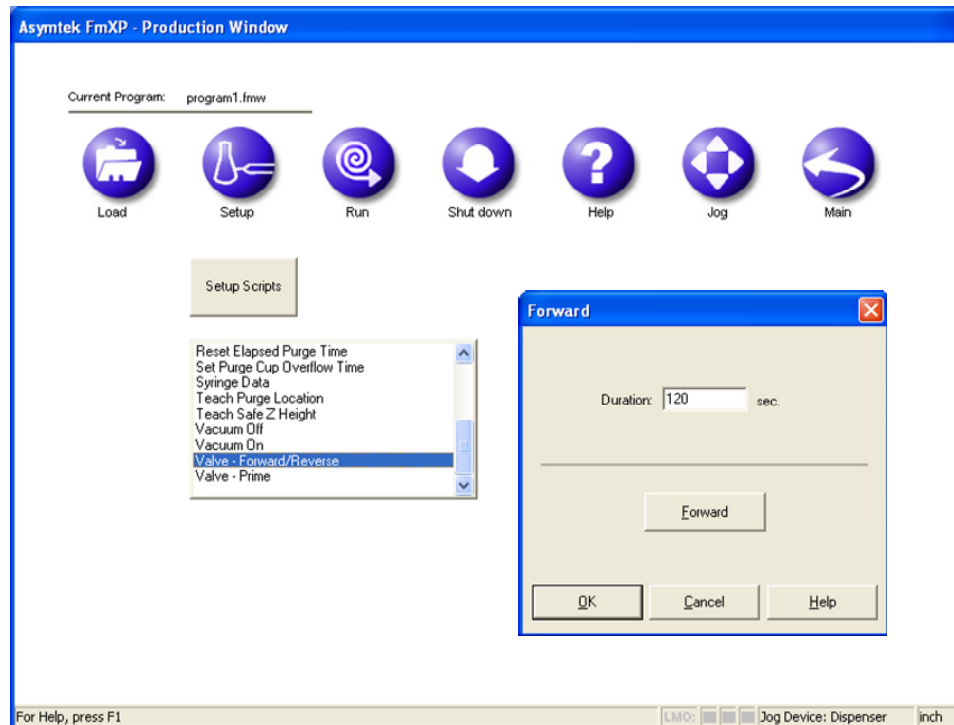

Figure 4-7 FmNT Valve Forward Screens
5. In the Fluidmove Main Window, click on **Run a Program** (Figure 4-7).
6. In the Production Window, click on **Setup** and then double click on **Valve - Forward/Reverse** (Figure 4-7).